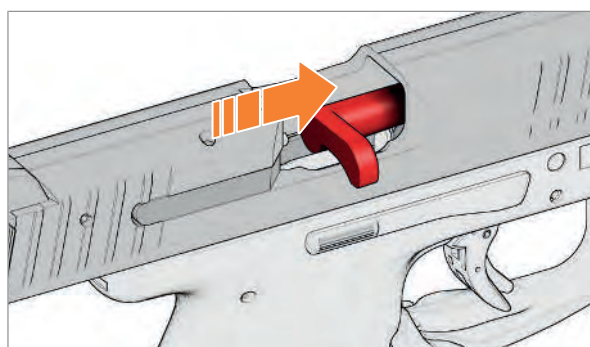

Fig. 27: Insert safety flag
3. Insert safety flag into chamber (Fig. 27).